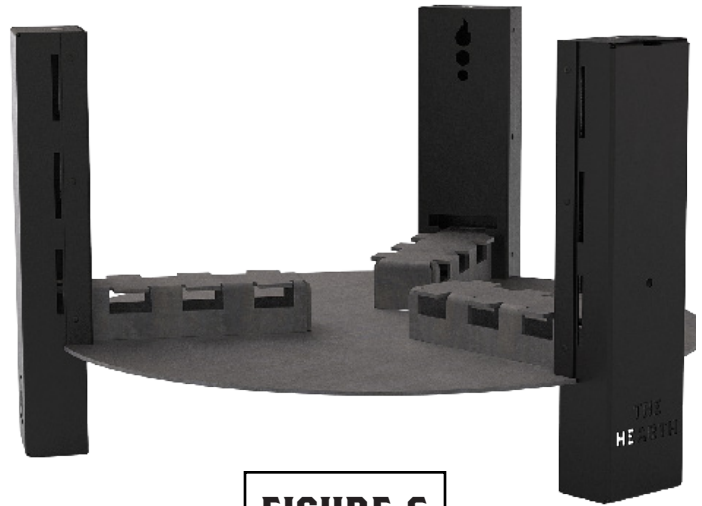

FIGURE 6
Step6: Repeat steps 3 thru 5 for the remaining leg and cover assemblies, as shown in Fig. 6